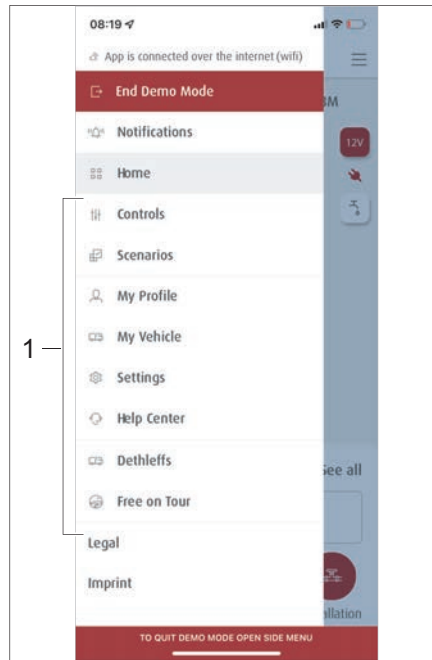
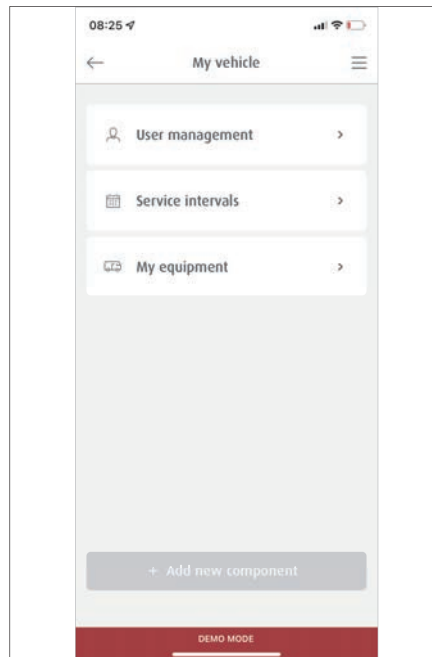

Fig. 276 Submenus
Fig. 281 My Vehicle submenu
- Click on the symbol ☰ in the menu section. The submenus (Fig. 276,1) will be displayed.
- Click on *Scenarios* (Fig. 276,1) in the menu section.
- In the submenu (Fig. 276,1), select the *Operation* menu.
- In the submenu (Fig. 276,1) select the *My Vehicle* menu. Guest accesses can be setup, service appointments booked and vehicle equipment entered in the *My Vehicle* submenu (Fig. 281).